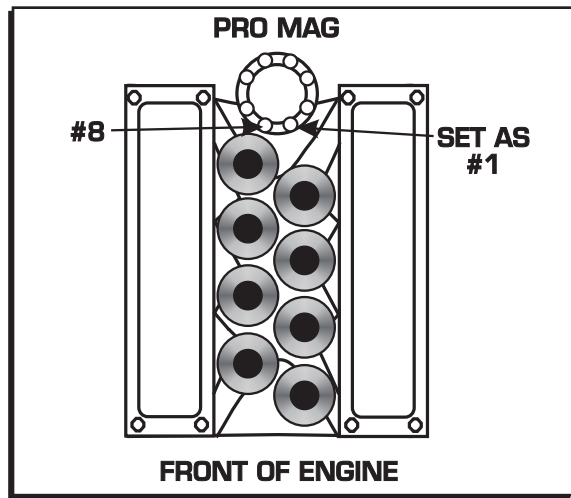

Figure 4 Recommended Chevrolet Installation Position.
**Recommendation:** It is recommended on Chevrolet applications to put the number one cylinder in the position shown in Figure 4. The custom wire sets MSD offers are designed for this setup.